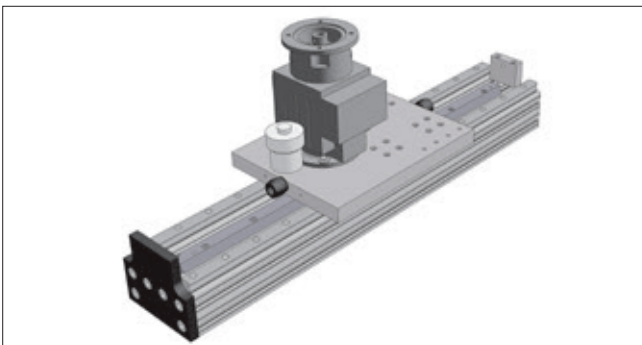

Figure 5.18 — AXS Lifting Axis with rack and pinion drive
- Lifting Axis for moving to loads in excess of 1000 kg (Figure 5.18)